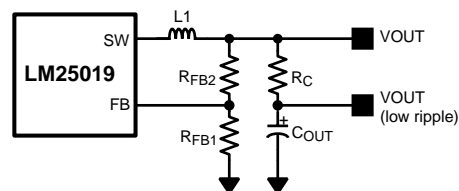

Figure 11. Low Ripple Output Configuration
This regulator regulates the output voltage based on ripple voltage at the feedback input, requiring a minimum amount of ESR for the output capacitor (C_{OUT}). A minimum of 25 mV of ripple voltage at the feedback pin (FB) is required for the LM25019. In cases where the capacitor ESR is too small, additional series resistance may be required (R_C in Figure 11).
For applications where lower output voltage ripple is required the output can be taken directly from a low ESR output capacitor, as shown in Figure 11. However, R_C slightly degrades the load regulation.